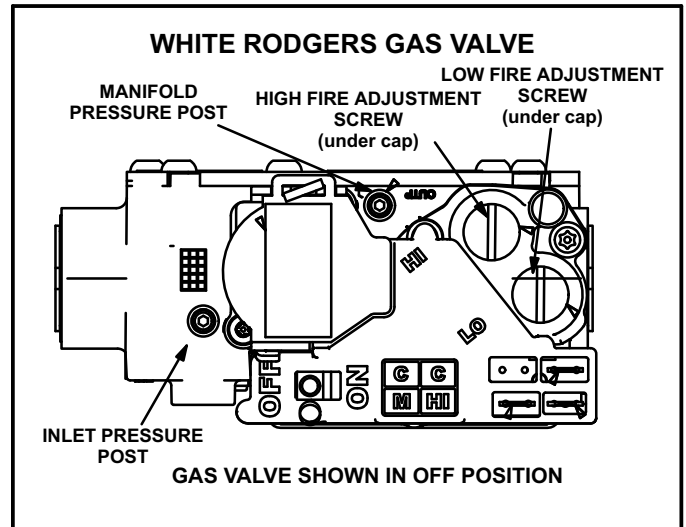

FIGURE 51
#### Gas Valve Operation (Figure 51)
- 6 - Move gas valve switch to **OFF**. See figure 51.
- 8 - Move gas valve switch to **ON**. See figure 51.
An inlet pressure post located on the gas valve provides access to the supply pressure. See figure 51. Back out the 3/32 hex screw one turn, connect a piece of 5/16 tubing and connect to a manometer to measure supply pressure. See table 28 for supply line pressure.
A manifold pressure post located on the gas valve provides access to the manifold pressure. See figure 51. Back out the 3/32 hex screw one turn, connect a piece of 5/16 tubing and connect to a manometer to measure manifold pressure.
- 4 - After allowing unit to stabilize for 5 minutes, record low fire manifold pressure and compare to value given in table 28. If necessary, make adjustment. Figure 51 shows location of low fire adjustment screw.
- 5 - Repeat on high fire and compare to value given in table 28. If necessary, make adjustment. Figure 51 shows location of high fire adjustment screw.